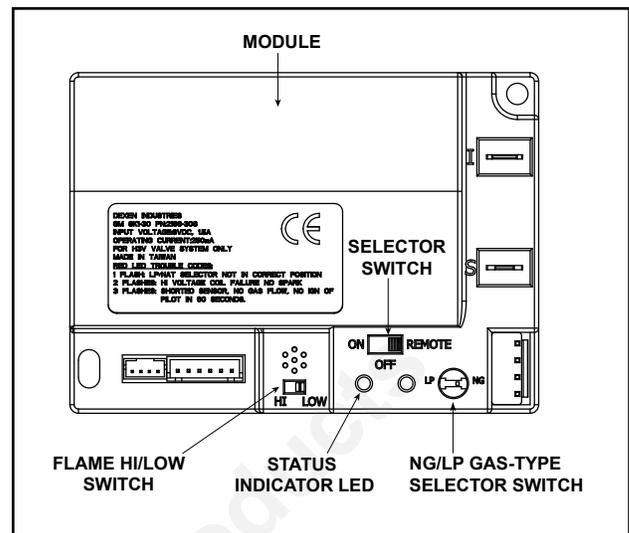

Figure 45. Control Module
3. If using a wired wall switch with the module in REMOTE mode, the flame output can be adjusted with the HI/LO selector switch on the module. See Figure 45. Note that the flame HI/LO selector switch will become inactive once an optional remote control (RC200/RC300) is programmed to the control module. Note that the control module will always ignite the fireplace on HI and remain so for the initial 10 seconds of operation. If the HI/LO is switched to the LO position, the flame output will automatically drop to the lowest setting after the flame has been established for 10 sec. After this 10 second period, the flame can be adjusted from HI to LO with the switch.